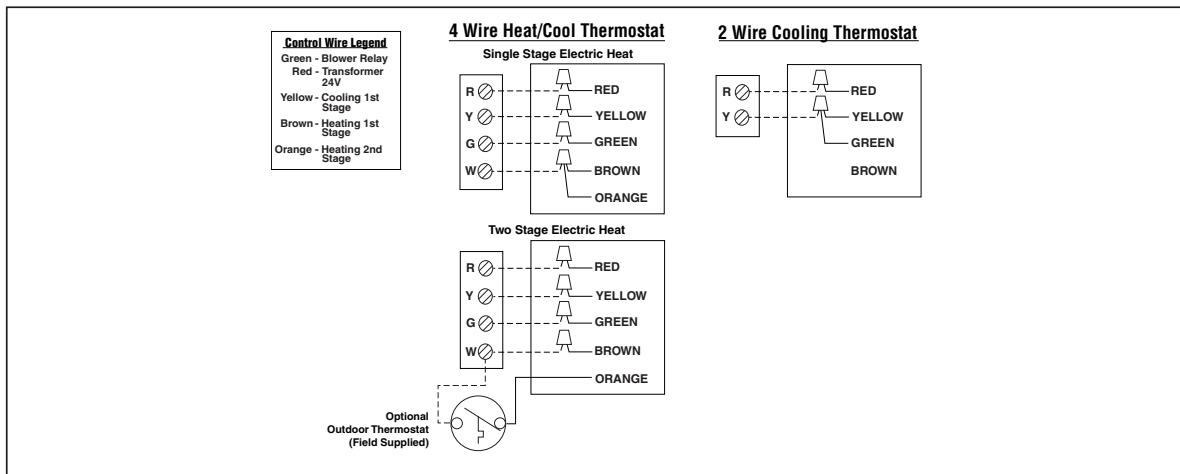

Figure 10. Low Voltage Connections
- Connect the control wires to the leads in the low voltage area. (See Figure 10).
Connect the low voltage wires to the respective terminals on the thermostat base. See thermostat instruction sheet for more detailed information. (See Figure 10).
If two stage heating is desired, an optional outdoor thermostat may be installed: Connect the thermostat to the orange low voltage wire and the W terminal on the indoor thermostat base (See Figure 10). See the thermostat instructions for details on setting the outdoor thermostat.